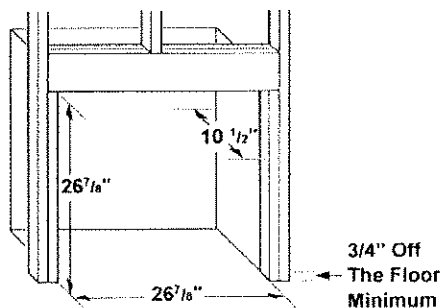
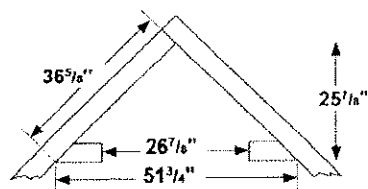

Figure 7 - Rough Opening for Installing in Wall
Figure 8 - Rough Opening for Installing in Corner
1. Frame in rough opening. Use dimensions shown in Figure 7, page 11 for the rough opening. If installing in a corner, use dimensions shown in Figure 8 for the rough opening. The height is 26 7/8" which is the same as the wall opening above.